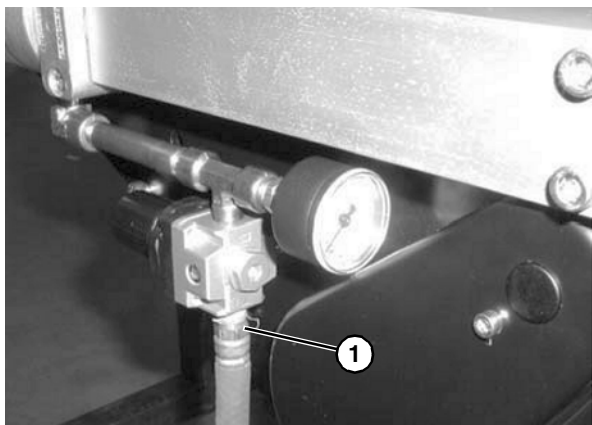

Figure 57
1. Remove air supply and remove hose (Figure 57, item 1) from center drive.